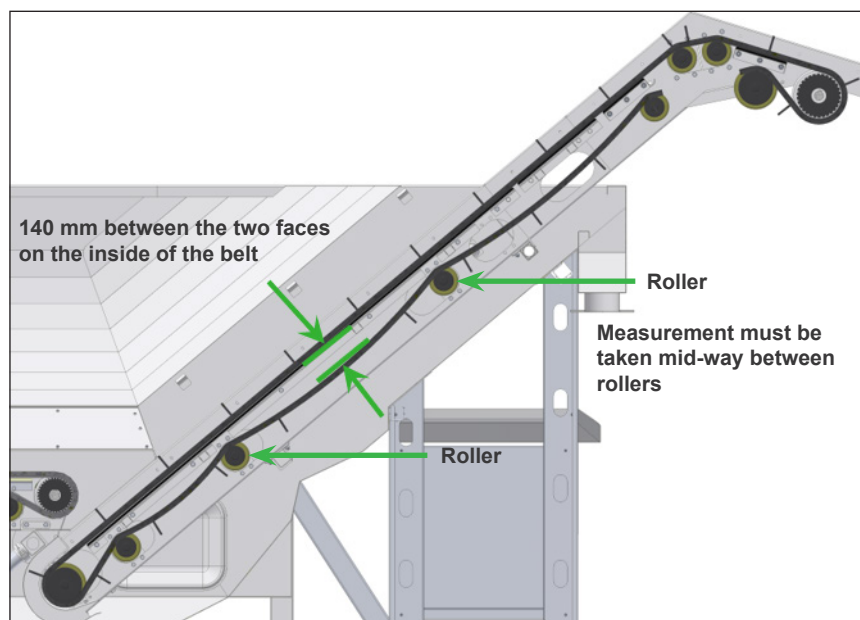

Figure 19 - Checking elevator belt sag
27. Adjust the tension until the correct sag is achieved (Figure 19). This should be approximately 140 mm between the two faces on the inside of the belt. Push a steel ruler down between two crossbars until it hits the lower belt to measure the sag. Shorten the belt if excess sag is present. See *Web belt shortening procedure*.